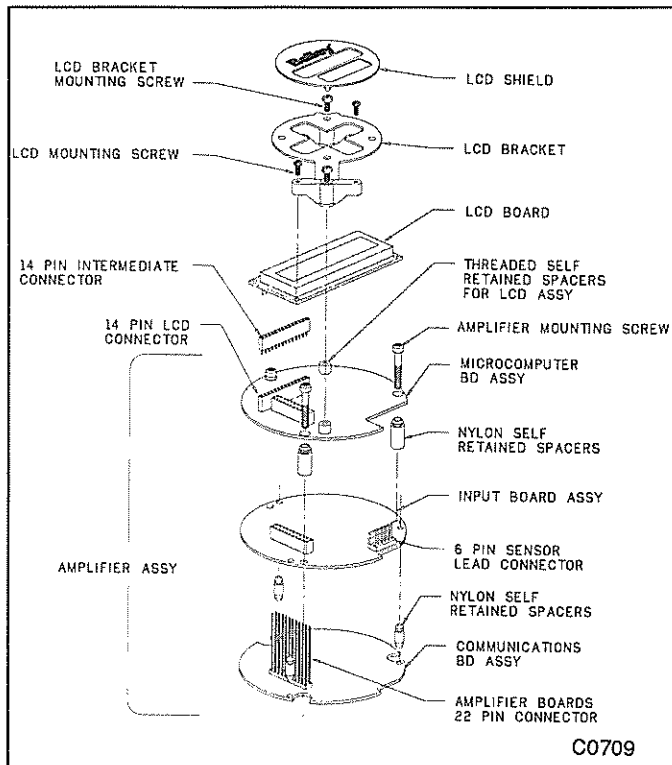

FIGURE 27 – Amplifier Assembly (Exploded View)
**NOTE:** See Figure 27 for an exploded view of the amplifier housing assembly.